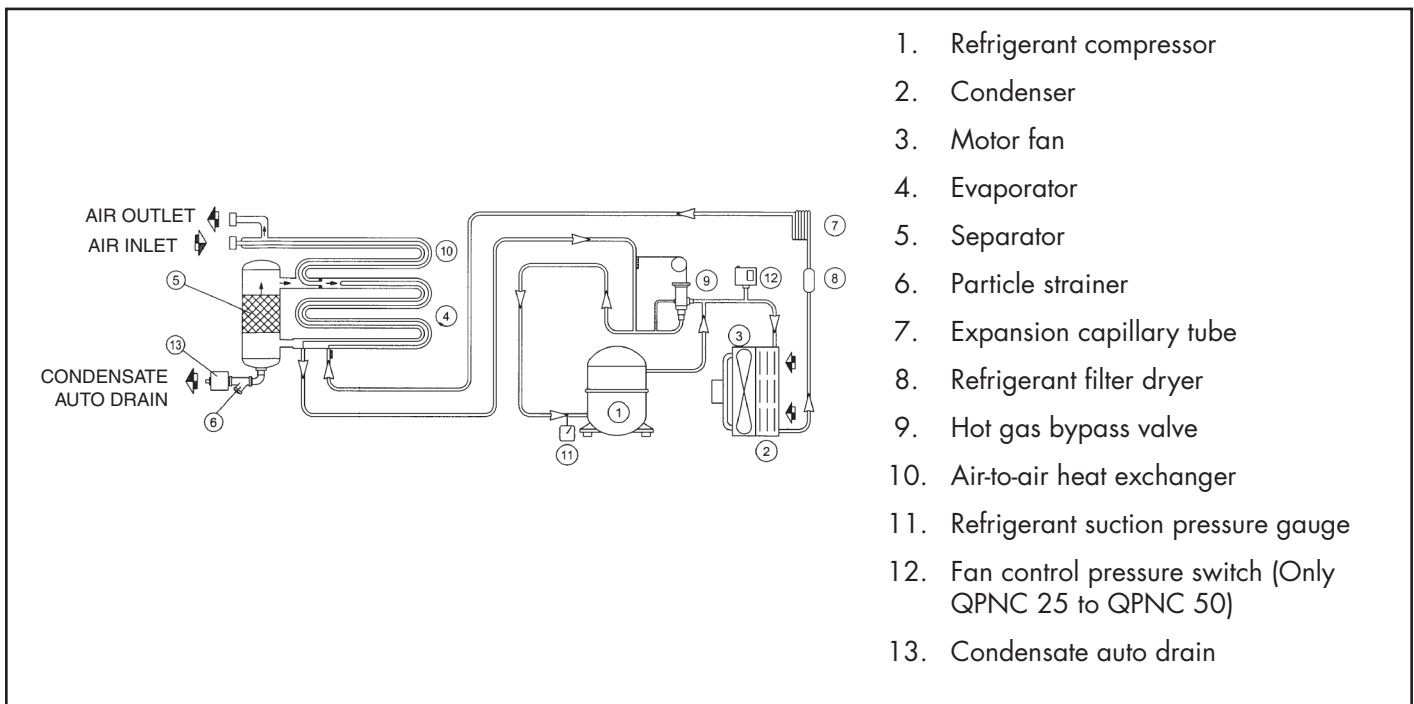

FIGURE 12 — DRYER FLOW DIAGRAM
See Figure 12. The gaseous refrigerant coming from the evaporator (4) is drawn by the refrigeration compressor (1) and is pumped into the condenser (2). This allows its condensation, with the help of the fan (3). The condensed refrigerant passes through the dewatering filter (8), it expands through the capillary tube (7) and goes back to the evaporator, where it produces the refrigerating effect. Due to the heat exchange with the compressed air which passes through the evaporator against the stream, the refrigerant evaporates and goes back to the compressor for a new cycle.